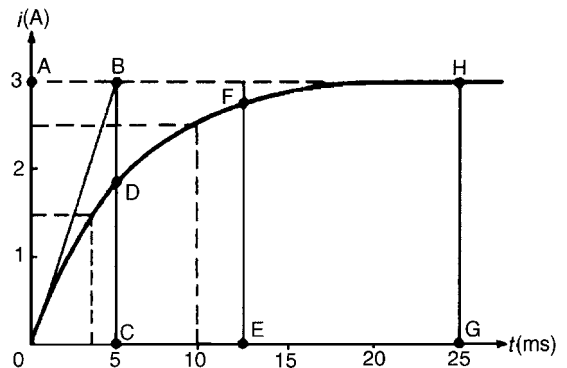

Figure 18.12
- (b) With reference to Fig. 18.12, the initial slope is obtained by making AB equal to 1 time constant, (i.e. 5 ms), and joining OB.